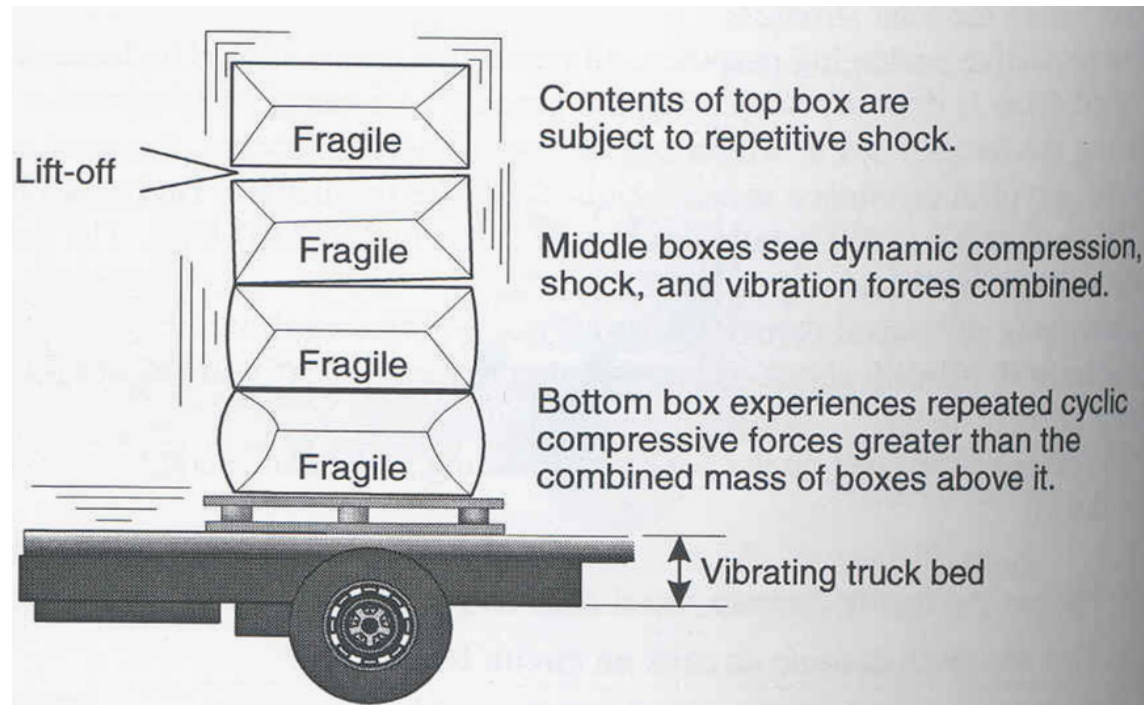

Figure 12.7 In stack resonance, the entire stack is bouncing, creating a destructive condition
- each succeeding container goes into resonance with the previous container until the entire stack is bouncing, creating conditions of extraordinary destructiveness (Figure 12.7).